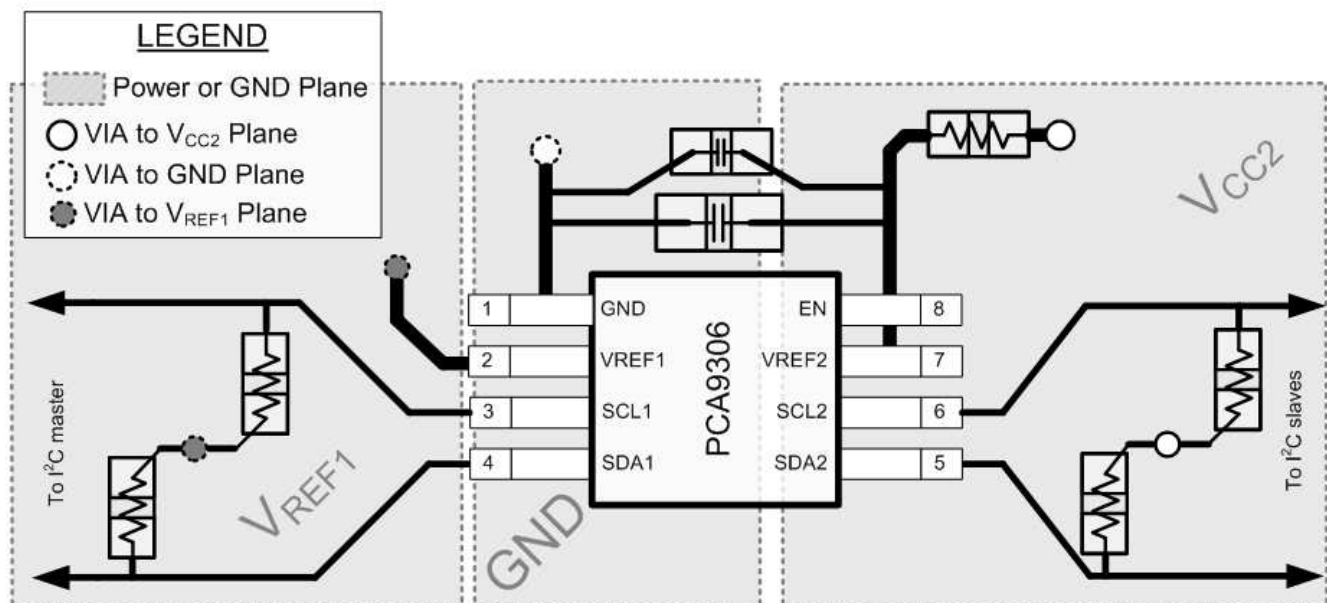

Figure 10. PCA9306 Layout Example
In all PCB layouts, it is a best practice to avoid right angles in signal traces, to fan out signal traces away from each other upon leaving the vicinity of an integrated circuit (IC), and to use thicker trace widths to carry higher amounts of current that commonly pass through power and ground traces. The 100-pF filter capacitor should be placed as close to V_{REF2} as possible. A larger de-coupling capacitor can also be used, but a longer time constant of two capacitors and the 200-k Ω resistor will result in longer turn on and turn off times for the PCA9306. These best practices are shown in Figure 10.
For the layout example provided in Figure 10, it would be possible to fabricate a PCB with only 2 layers by using the top layer for signal routing and the bottom layer as a split plane for power (V_{CC}) and ground (GND). However, a 4 layer board is preferable for boards with higher density signal routing. On a 4 layer PCB, it is common to route signals on the top and bottom layer, dedicate one internal layer to a ground plane, and dedicate the other internal layer to a power plane. In a board layout using planes or split planes for power and ground, vias are placed directly next to the surface mount component pad which needs to attach to V_{CC} or GND and the via is connected electrically to the internal layer or the other side of the board. Vias are also used when a signal trace needs to be routed to the opposite side of the board, but this technique is not demonstrated in Figure 10.